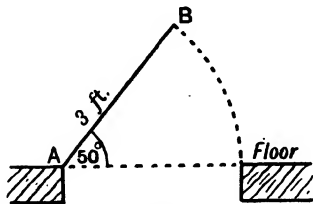

FIG. 95. DIAGRAM FOR EXAMPLE 2
2. A trap door, AB, in the floor is raised so as to make an angle of  $50^\circ$  with the floor, Fig. 95. How high is B above the floor?